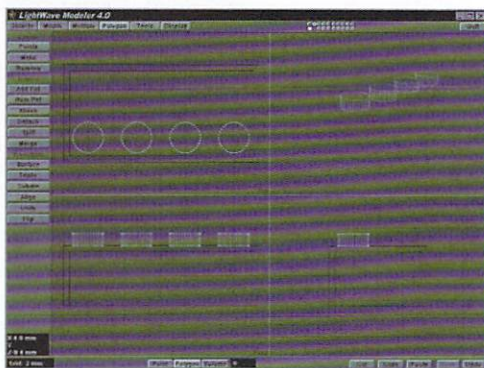

Figure 4
Pick the Multiply Menu, then Clone. When the requester appears, enter 3 for the number of clones and 8 mm for the X offset value. You should have four pegs in a row evenly spaced (Figure 4). Still in the Multiply Menu, select Mirror and (n) for Numeric. The axis should be Z and Position is 0 hit enter. You have now completed the pegs for the top of the block. Finish by cutting and pasting the pegs to layer 1. Simply hit (x) for Cut, (1) for Layer 1 and finally (v) to Paste the pegs to layer one.